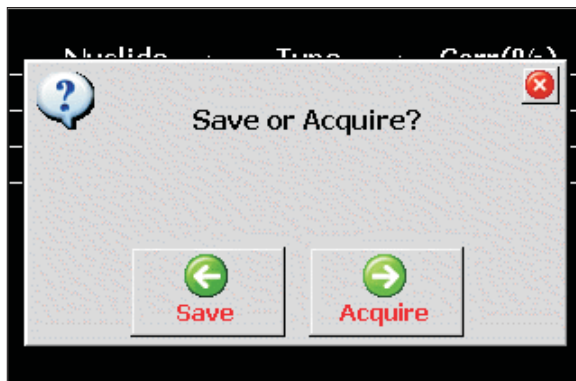

Figure 27 Save or Acquire Data
- When analysis is complete, select the keyboard's **Enter** key to Save the data or Acquire new/more data (Figure 27).